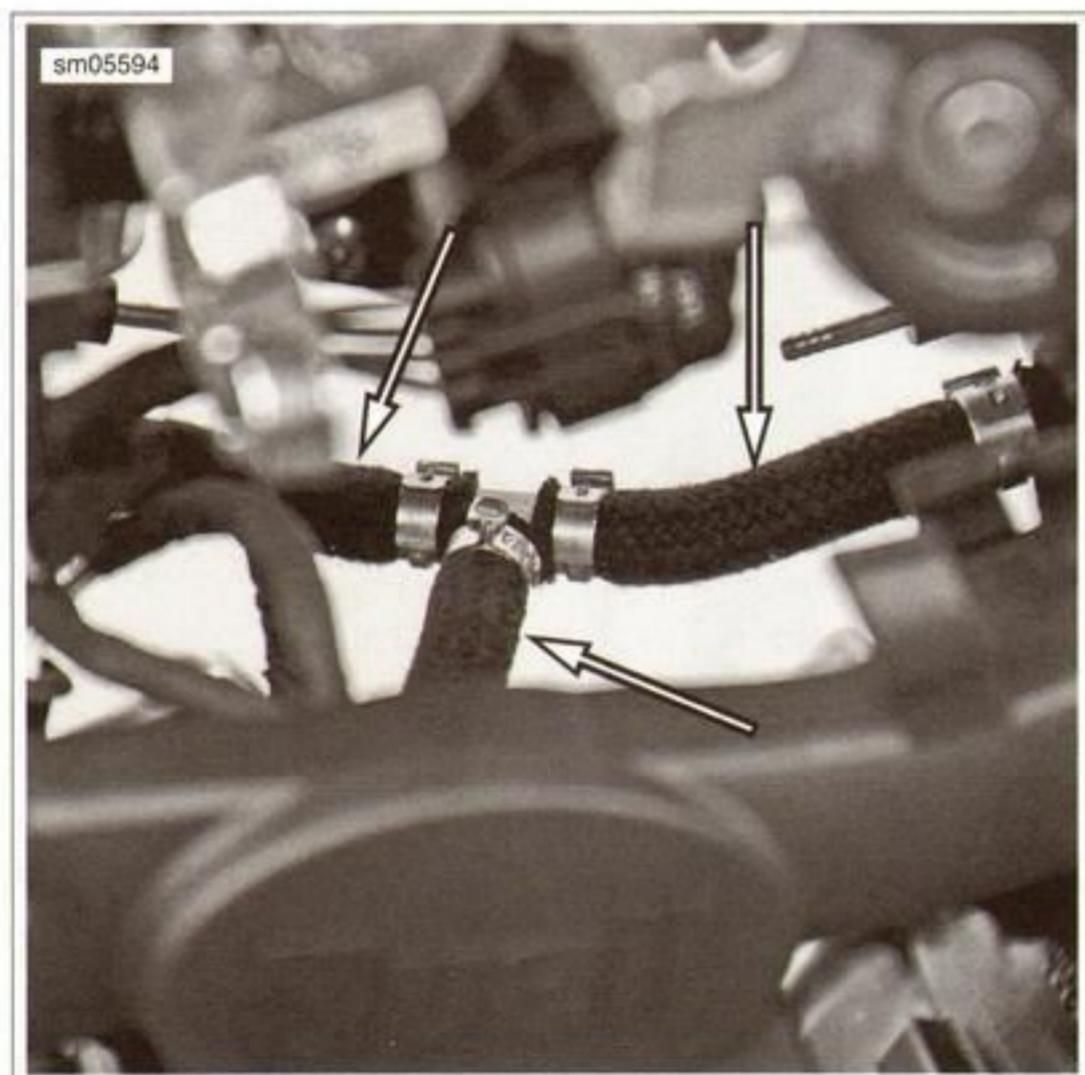

Figure 6-26. Vacuum Assist Hoses and Clamps at Throttle Body
1. See Figure 6-26. Clamp short hoses to the throttle body fittings. Use **new** clamps.